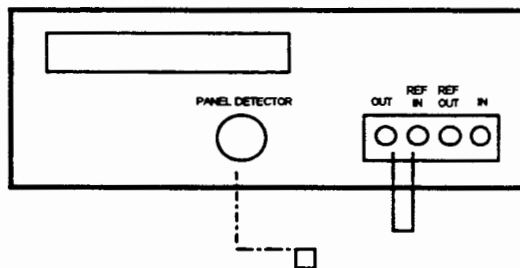

Figure 9: Third Step in the PDL Reference Measurement
6. Remove the connector end of the first jumper from the FC/PC - FC/PC mating adapter and connect it to the REF IN port (figure 9).